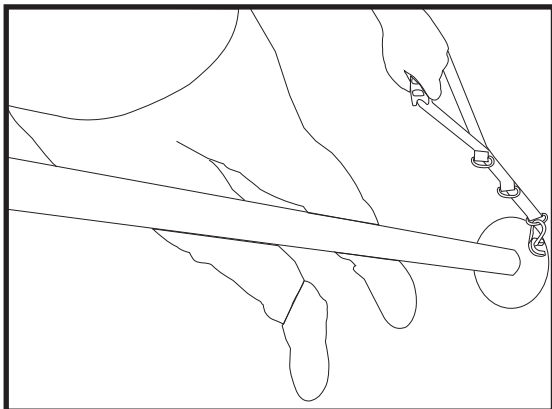

Fig. 12
18. Attach to the base the handle for lifting the pole (Fig.12).
19. Place the pole holding the handle and pole tube. After placing check that the pole is vertical (Fig. 12).